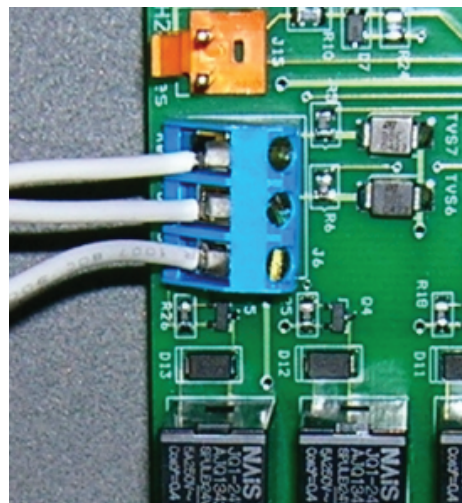

Figure 17. Remote Pool-Off-Spa Connection (3-Wire Connection)
4. Connect the wiring from the pool/spa control system to the heater remote control terminal (see Figure 17).